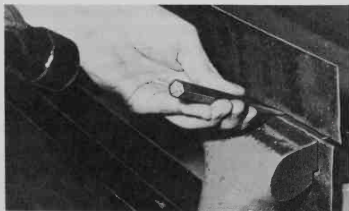

Fig. 4-29. Shearing metal.
2. Place the beveled surface of the chisel's cutting edge flat on the vise jaw, Fig. 4-29.